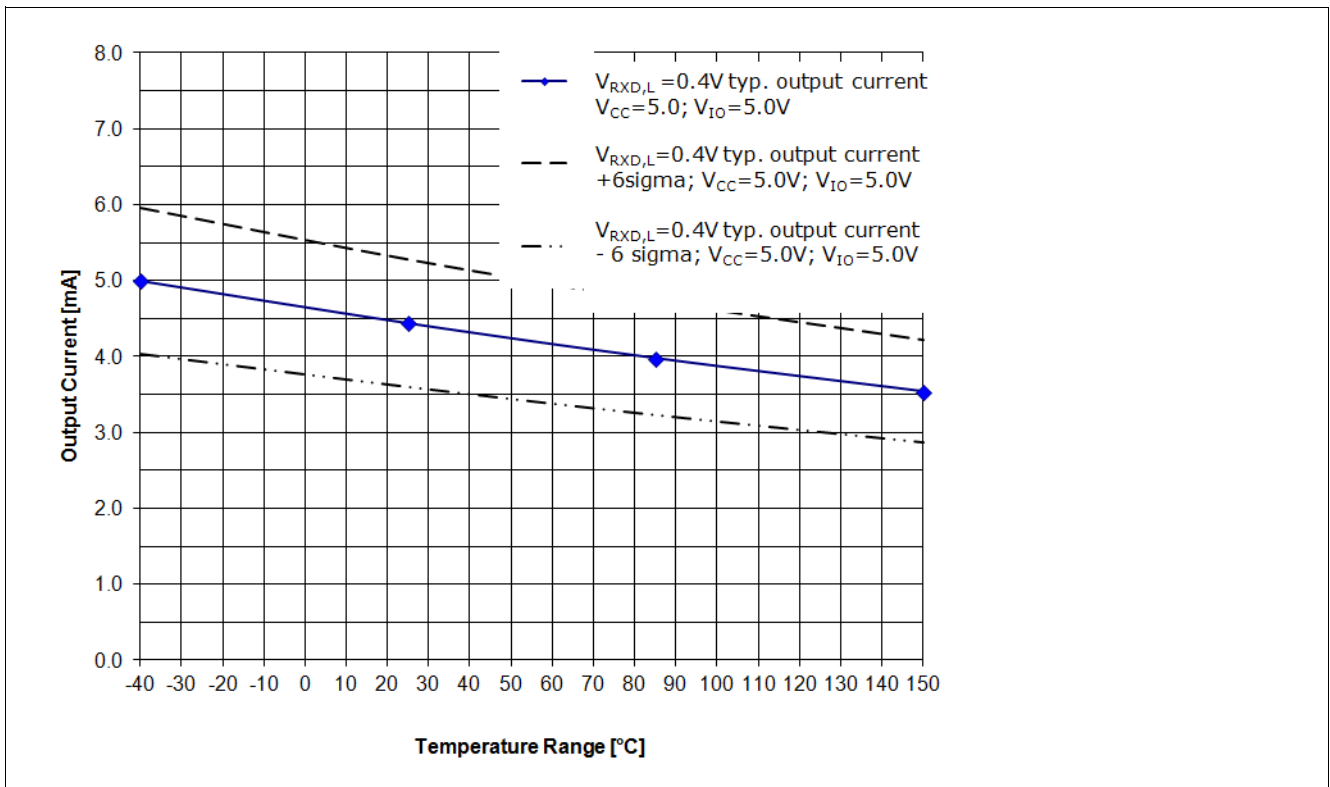
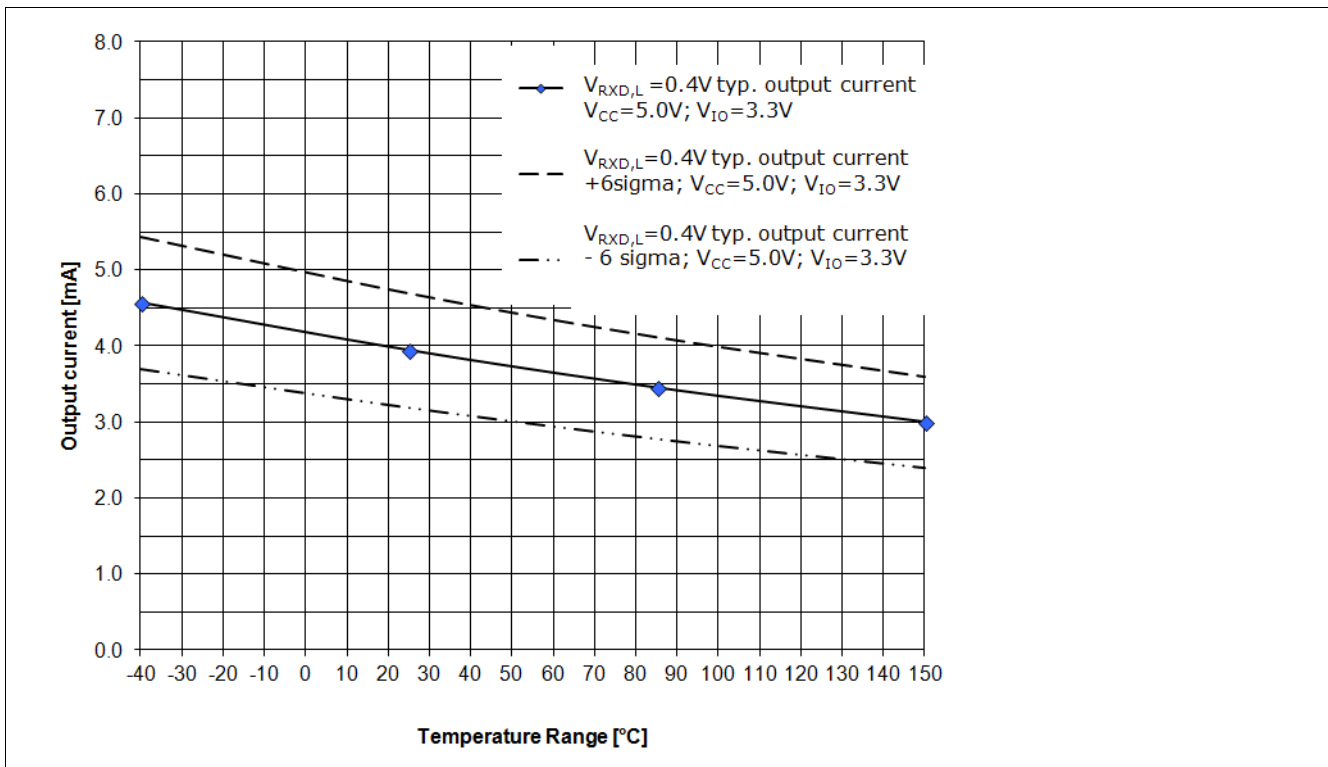

Figure 13 RxD Output driver capability for a logical “Low” signal $V_{RxD,H}=0.4\text{ V}$, $V_{CC}=5.0\text{ V}$, $V_{IO}=5.0\text{ V}$ ¹⁾
Figure 14 RxD Output driver capability for a logical “Low” signal ($V_{RxD,H}=0.4\text{ V}$, $V_{CC}=5.0\text{ V}$, $V_{IO}=3.3\text{ V}^1$)
The diagram in Figure 13 and the diagram in Figure 14 show the current capability of the RxD output pin depended on the chip temperature T_J . Figure 13 shows the current capability of the RxD output pin at a V_{IO} power supply of 5.0 V and Figure 14 shows the current capability of the RxD output pin at a V_{IO} power supply of 3.3 V.
- The curve “VRxD,H = 0.4 V; **typ. output current**; VCC = 5.0 V; VIO =5.0 V;” displays the typical output current at the RxD output pin of the TLE8250GVIO (see Figure 13).
- The curve “VRxD,H = 0.4 V; **typ. output current + 6 sigma**; VCC = 5.0 V; VIO =5.0 V;” displays the expected maximum value of the output current at the RxD output pin (see Figure 13).
- The curve “VRxD,H = 0.4 V; **typ. output current - 6 sigma**; VCC = 5.0 V; VIO =5.0 V;” displays the expected minimum value of the output current at the RxD output pin (see Figure 13).
- The curve “VRxD,H = 0.4 V; **typ. output current**; VCC = 5.0 V; VIO =3.3 V;” displays the typical output current at the RxD output pin of the TLE8250GVIO (see Figure 14).
- The curve “VRxD,H = 0.4 V; **typ. output current + 6 sigma**; VCC = 5.0 V; VIO =3.3 V;” displays the expected maximum value of the output current at the RxD output pin (see Figure 14).
- The curve “VRxD,H = 0.4 V; **typ. output current - 6 sigma**; VCC = 5.0 V; VIO =3.3 V;” displays the expected minimum value of the output current at the RxD output pin (see Figure 14).